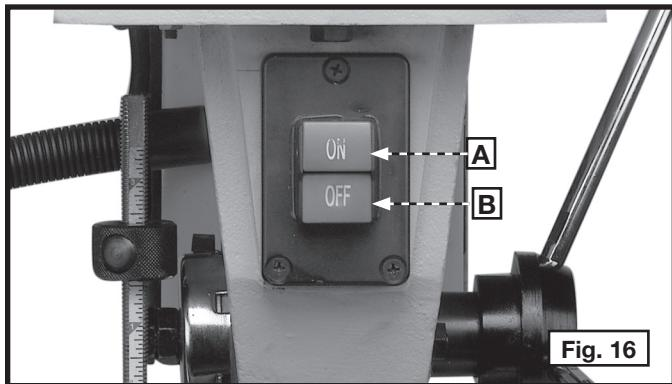

Fig. 16
The power switch is located on the front of the drill press head. To turn the drill press "ON", press the green start button (A) Fig. 16. To stop the drill press, push the red button (B).